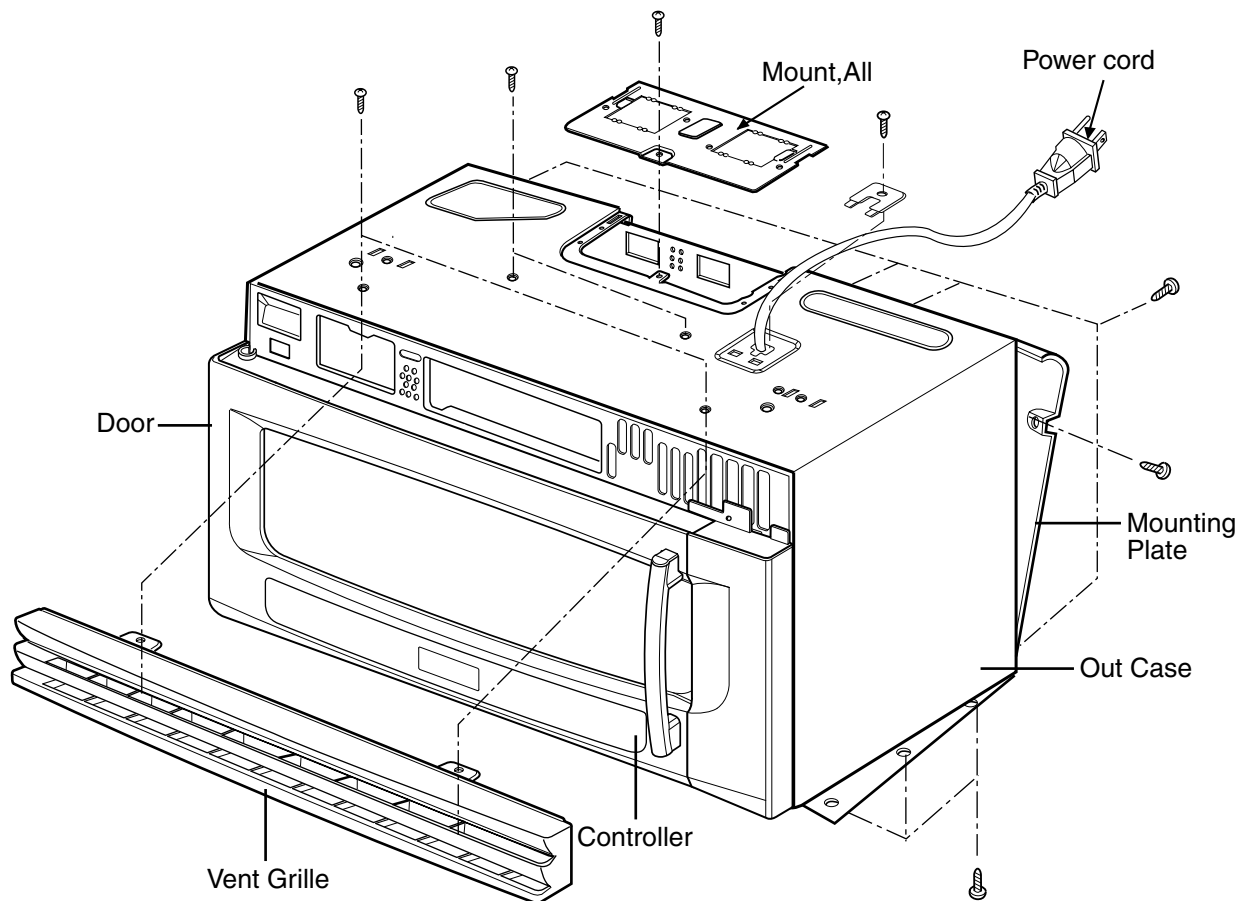

Figure 8
B. REMOVING THE OUTSIDE CASE (Figure 8)
- (1) Remove the vent grille by removing two screws securing it to the outside case.
- (2) Remove two screws securing it to the air duct.
- (3) Remove the mounting plate by turning the screws (1 or 2 screws)securing it to the out case.
- (4) Remove two screws on the left central edge and two screws on the right central edge of Base plate. Remove the Mount, All from the outside case by removing one screw securing it to the outside case.
- (5) Remove four screws of the rear cavity.
- (6) Remove the outside case.